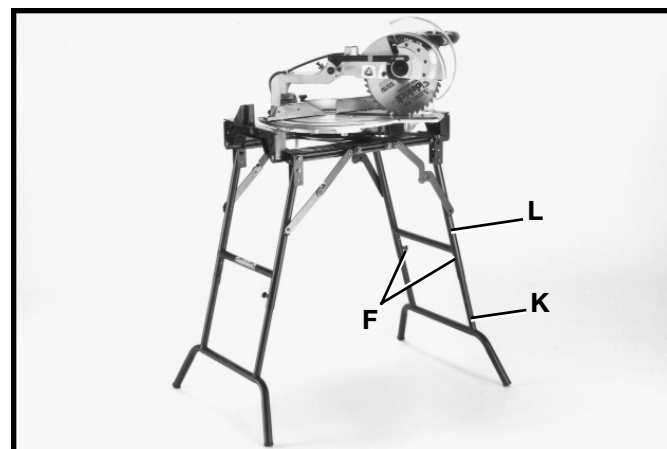

Fig. 11
7. Pull right side upper leg (L) Fig. 11, from lower leg (K) in the same manner. Tighten the remaining two locking knobs (F). **CAUTION:** Make certain both legs are fully extended and locked in position before operating the saw.